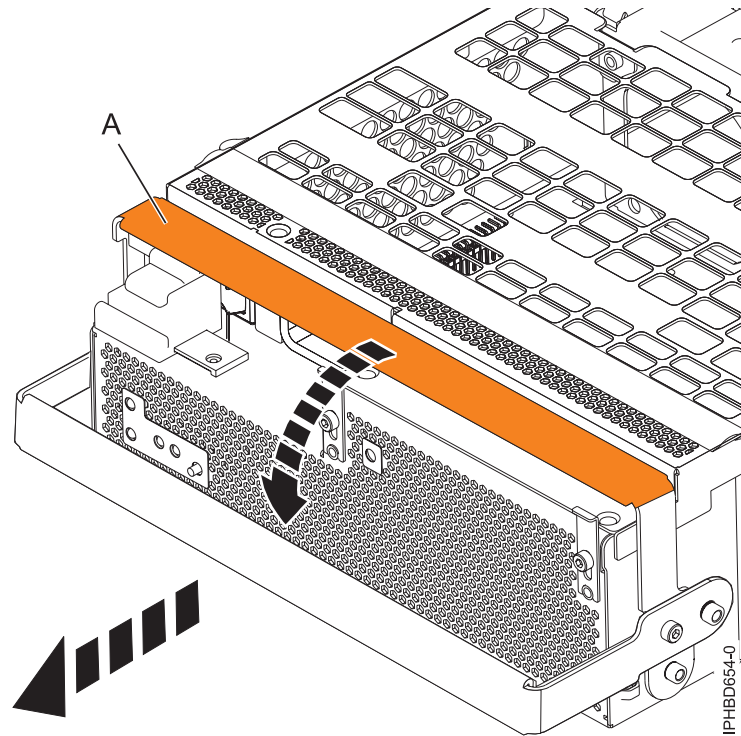

Figure 14. Removing a power supply
7. Rotate the power-supply locking handle (A) to the open position as shown in Figure 14. Pull the power supply out of the expansion unit.